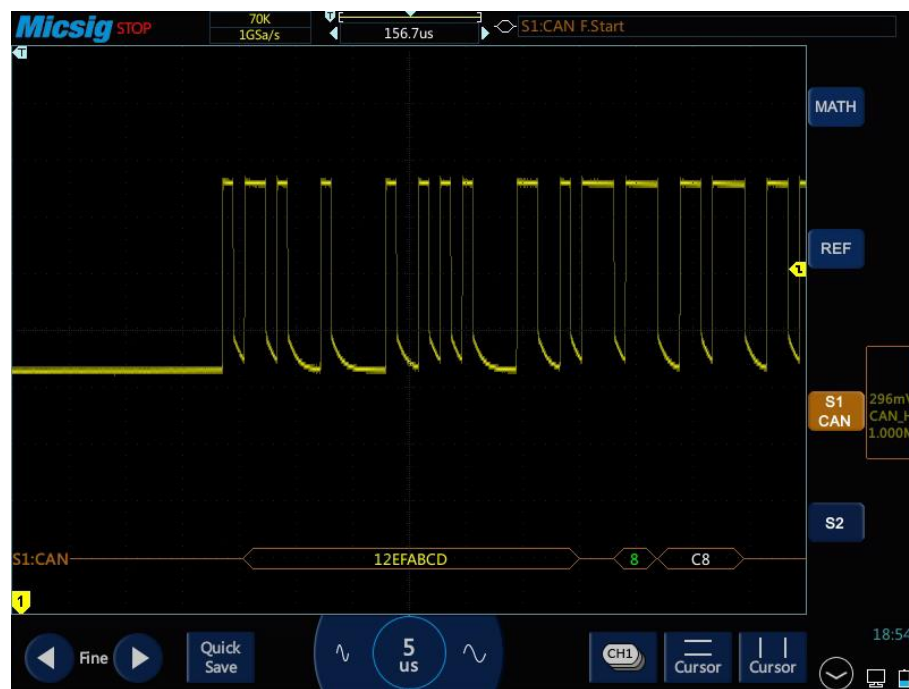

Figure 12-16 CAN Graphic Interface
- (1) Tap S1 to open the decode channel, and click S1 again to open the bus configuration menu;
- (2) Select the bus type as “CAN”, and then click “Ch1”, “Idle High” and “1Mb/s”. After setting, click the blank area to close the menu;
- (3) Open the trigger mode configuration menu and click “F.Start”;
- (4) Adjust the threshold level according to the signal amplitude; the CAN trigger graphic interface is shown in Figure 12-16: